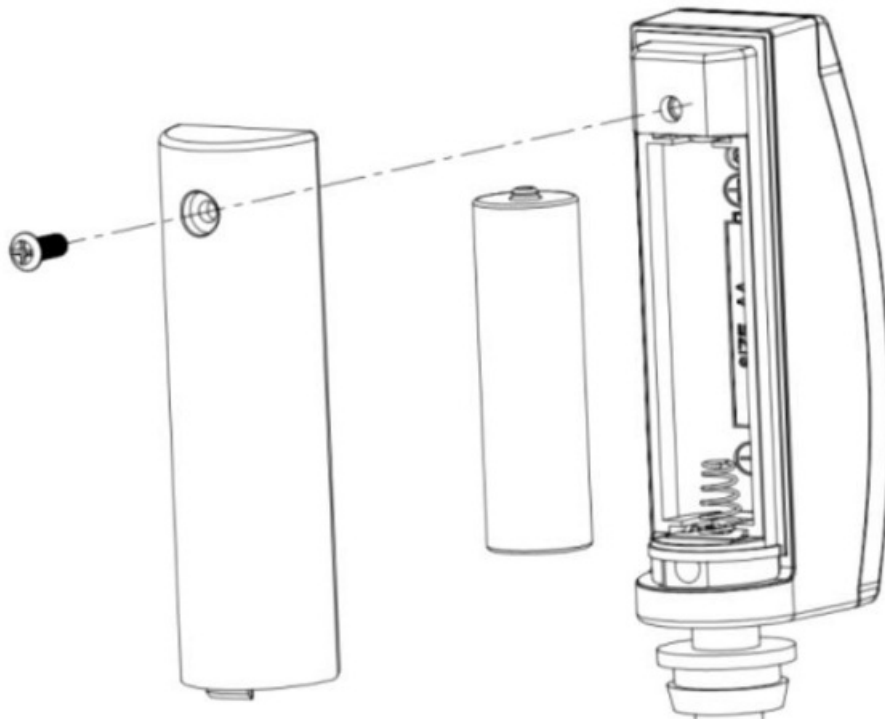

Figure 2: Battery installation
1. Remove the battery door on the back of the transmitter by removing the screw, as shown in Figure 2: